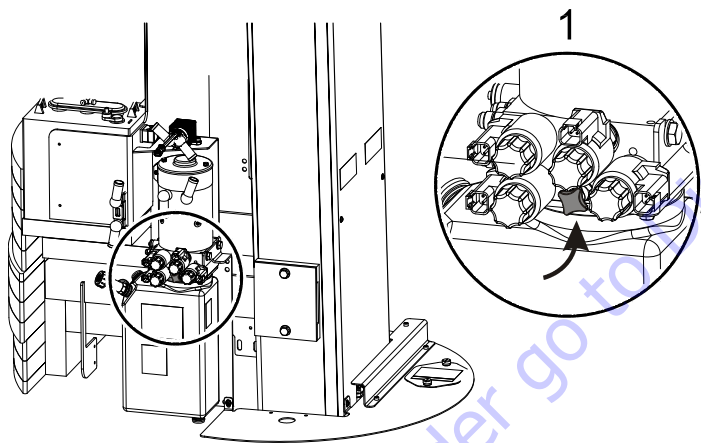

Figure 3-5. Rotary Valve
- a **rotary valve (1)** located on the pump/motor control valves assembly to release the swinging motor (Refer to Figure 3-5).